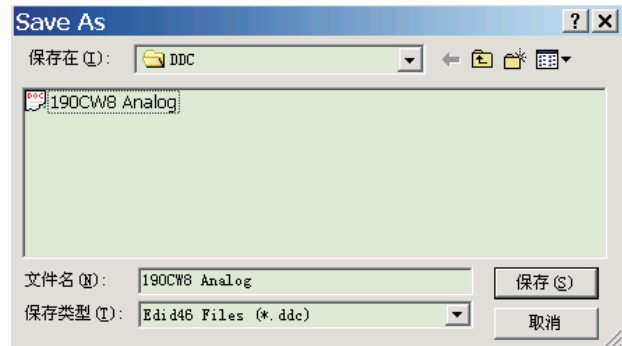

Fig. 25
- Click  (Save) icon (or click "file"-> "save as") from the tool bar and give a file name as shown in Fig. 25. The file type is EDID46 file (*.ddc) which can be open in WordPad. By using WordPad, the texts of DDC data & table (128 bytes, hex code) can be modified. If DDC TEXTS & HEX Table are completely correct, it can be saved as .ddc file to re-load it into DDC IC for DDC Data application.